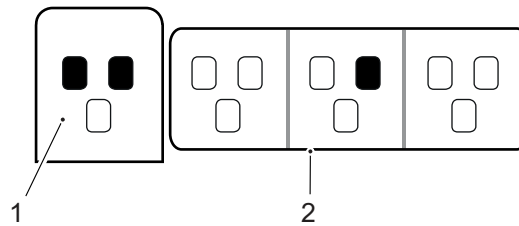

Fig. 3-36 AEC field selection
When selecting the *AEC field* button, a pop-up-window with the different AEC fields appears, see **Fig. 3-36**. The AEC fields are activated by selecting them in the pop-up window (2) to the right. All activated AEC fields are shown at (1). AEC fields are deactivated by selecting them again in the pop-up window (2).